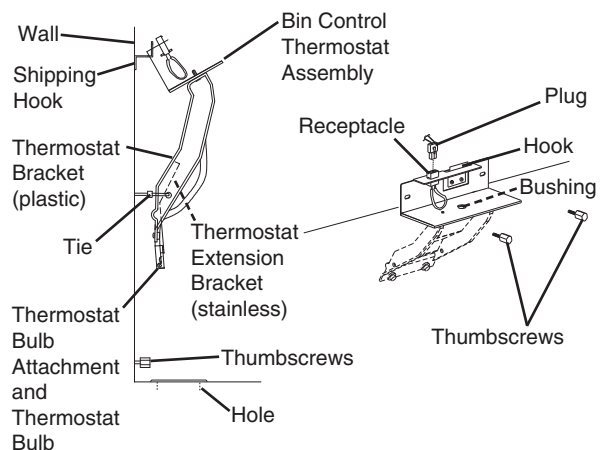

Fig. 3a
- 5) Install the bin control thermostat as follows. See Fig. 3a and 3b.